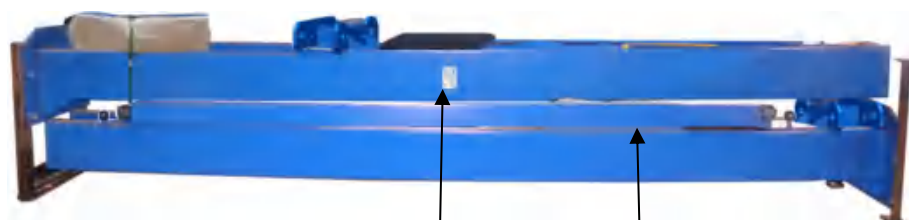

Fig. 8
2. Move the lift aside with a fork lift or hoist, and open the outer packing carefully, take off the parts from upper and inside the column, take out the parts box, check the parts according to the shipment parts list (See Fig. 8).